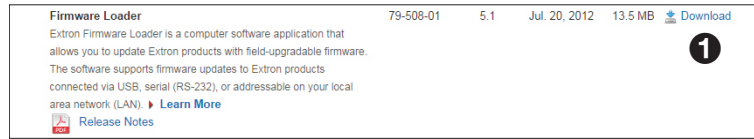

Figure 6. Firmware Loader Download Link
1. At www.extron.com, click the **Download** link at the top of the page (figure 6, ❶), then click the **Firmware** link (❷) on the left sidebar menu.